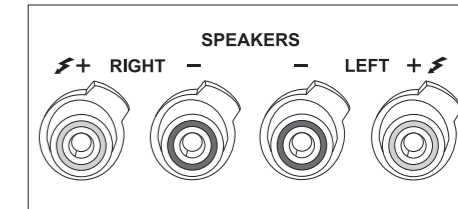

Fig. 2 Amplifier loudspeaker outputs (example)
2. Connect the other cable ends to the loudspeaker outputs of your switched off power amp (see Fig. 2).